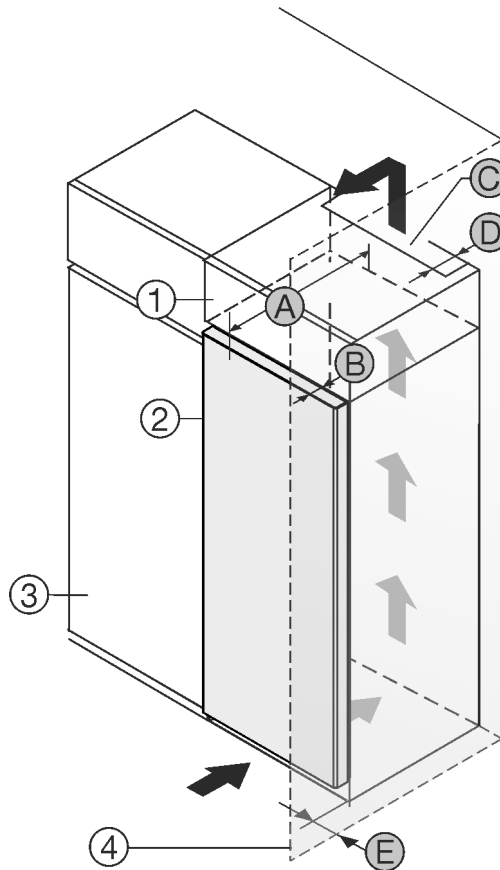

Fig. 1
- (1) Top cupboard \*
- (2) Appliance \*
- (3) Kitchen cabinet \*
- (4) Wall \*
- (A) Appliance depth \*
- (B) Door depth \*
- (C) Ventilation cross section \*
- (D) Distance to the back of the appliance \*
- (E) Distance to the side of the appliance \*
You can place the appliance directly beside the kitchen cabinet Fig. 1 (3).\*
There must be a ventilation shaft at the depth Fig. 1 (D) of the back of the top cupboard over the entire width of the top cupboard.\*
The ventilation cross-section Fig. 1 (C) must be maintained under the ceiling.\*
If the appliance is set up with the hinges next to a wall Fig. 1 (4), the distance between the appliance and the wall must be at least 13 mm.\*
If the appliance is set up with the hinges next to a wall Fig. 1 (4), the distance between the appliance and the wall must be at least 20 mm.\*
In order to be able to fully open the door, the appliance must protrude by the depth of the door Fig. 1 (B) from the front of the kitchen cabinet. The appliance may protrude further depending on the depth of the kitchen cabinets Fig. 1 (3) and whether wall spacers are used.\*